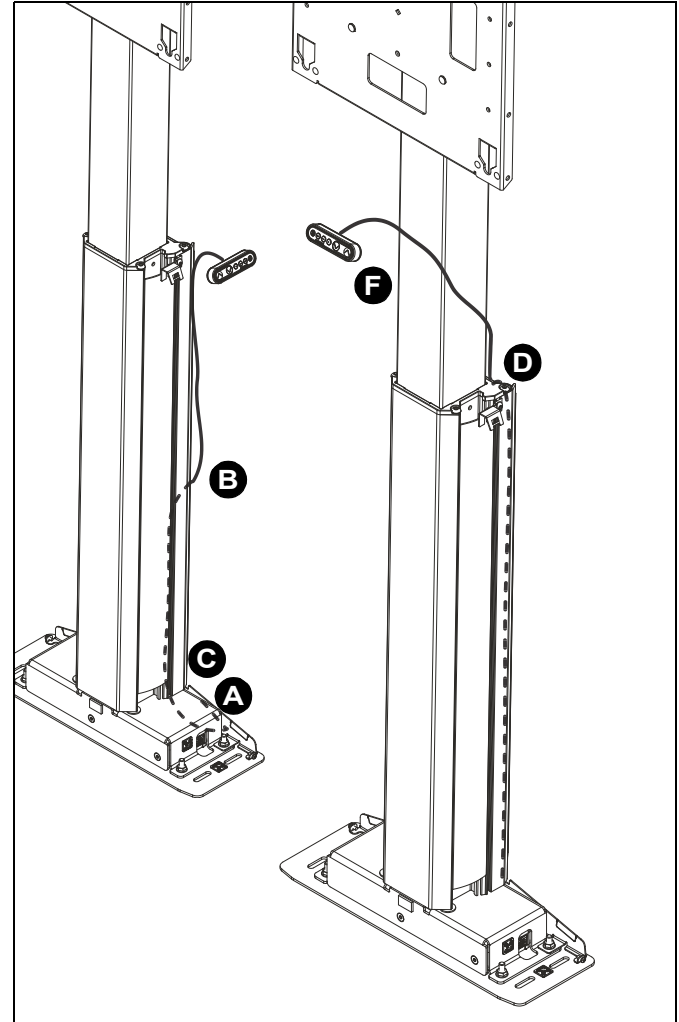
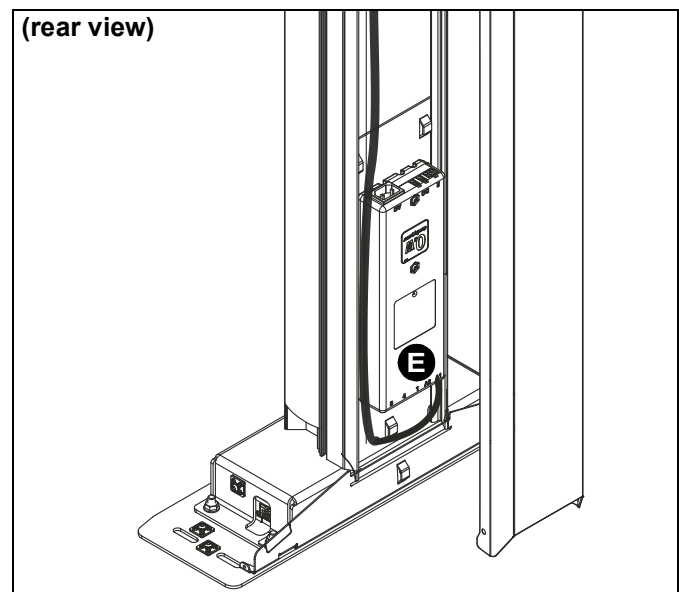

Figure 11
Figure 12
19. (Optional) Relocate control pad to the front center of display if desired following these steps. (See Figure 11) and (See Figure 12)
- F. Use double-sided foam tape (U) to attach control pad to bottom of display in the center.